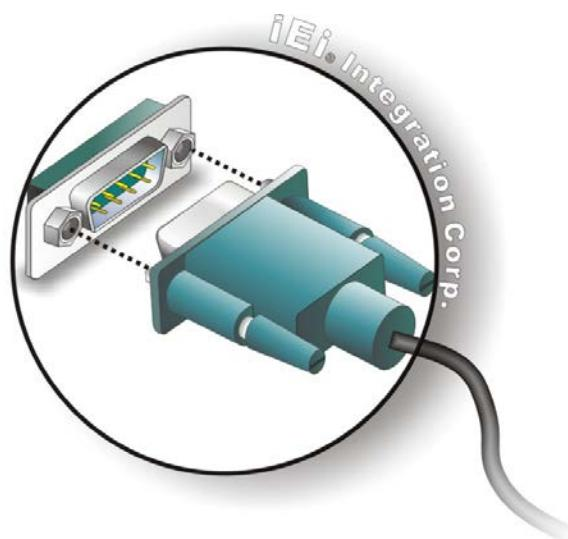

Figure 3-11: Serial Device Connector
Step 2: Insert the serial connector. Insert the DB-9 connector of a serial device into the DB-9 connector on the external peripheral interface. See **Figure 3-11**.